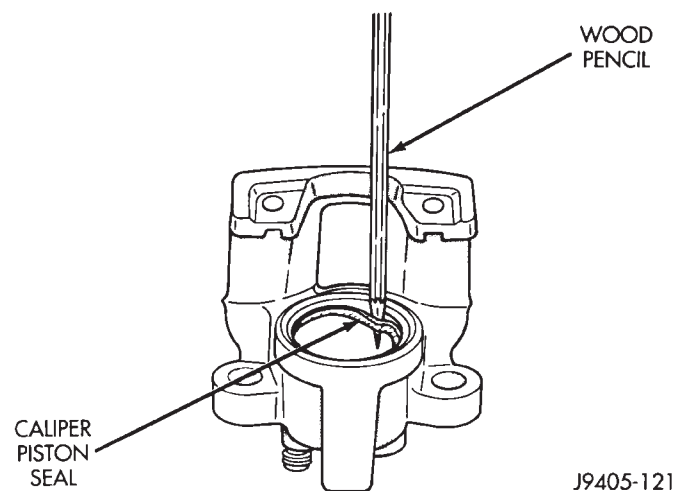

Fig. 78 Caliper Piston Seal
(6) Remove and discard caliper piston seal with pencil, or plastic tool (Fig. 78). Do not use metal tools as they will scratch piston bore.